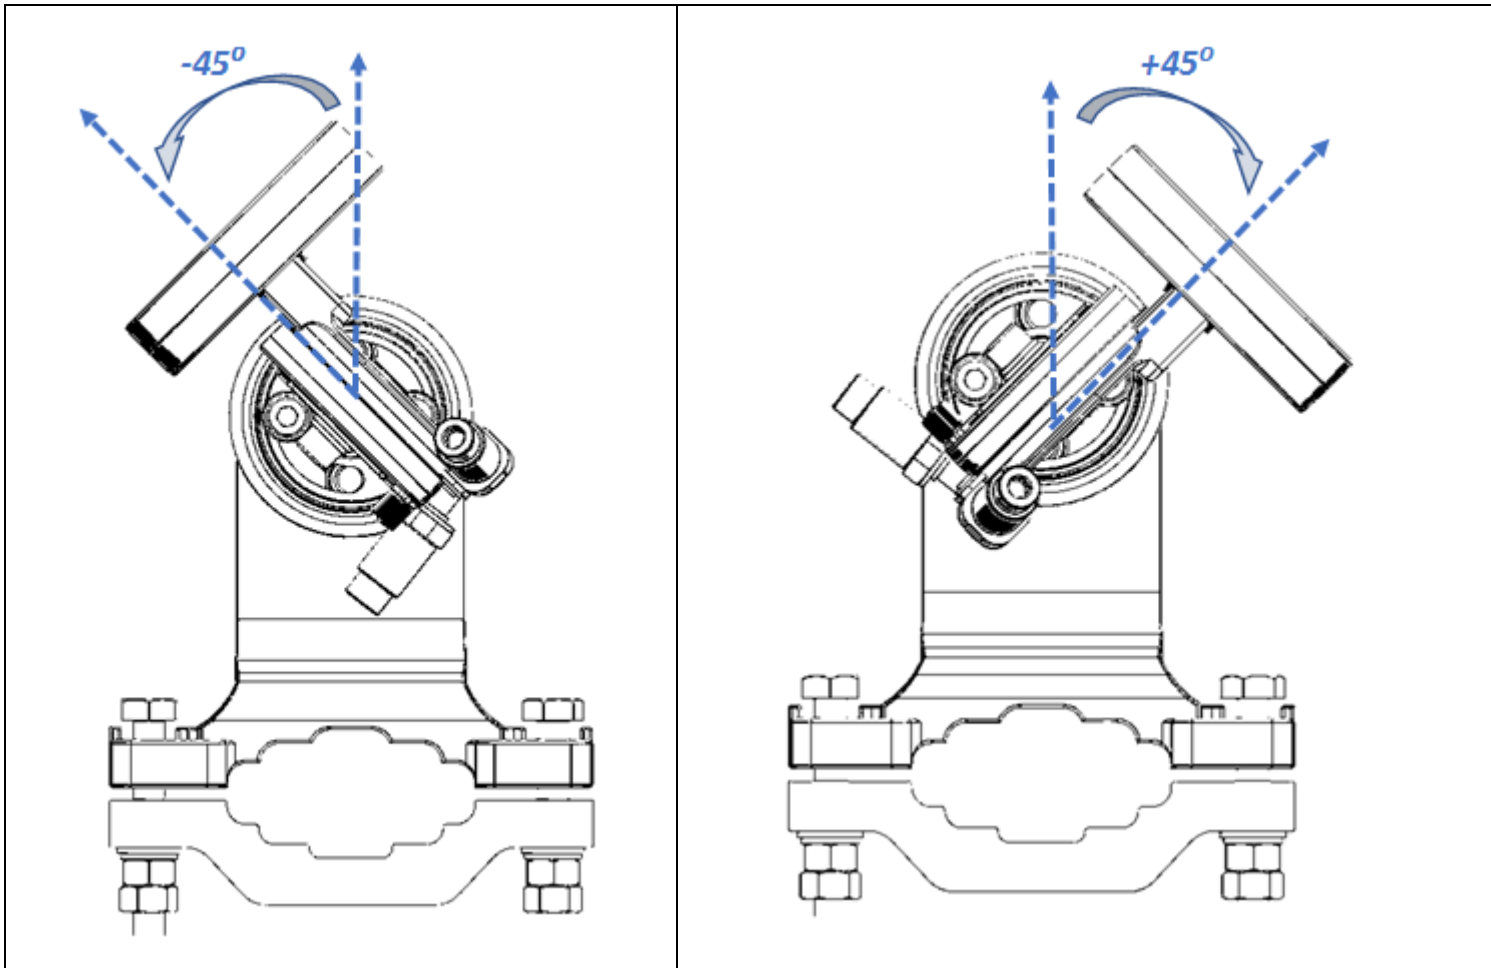

Figure 28: Installation and Alignment Device - Azimuth Range
There are two M8 Elevation Screws and two M8 Azimuth screws, as shown in **Figure 28**. Before starting the alignment, make sure these screws are securely in place so they will not fall out during the procedure, but not too tight, so as to enable you to manually adjust the azimuth and elevation to the approximate position you want, before performing exact antenna alignment as described in the following sections.
You can easily adjust the azimuth and elevation of the antenna using a number of screws and nuts located on the installation and alignment device (**Figure 28**).
1. Loosen the Azimuth Fixing Pin (Figure 28) by pulling it gently out of its groove and rotating it counter-clockwise.
1. Turn the Azimuth Nut (Figure 28), either by hand or using a key wrench, for fine tuning of the azimuth. Each  $\frac{1}{4}$  turn is equal to an adjustment of  $0.25^\circ$ .